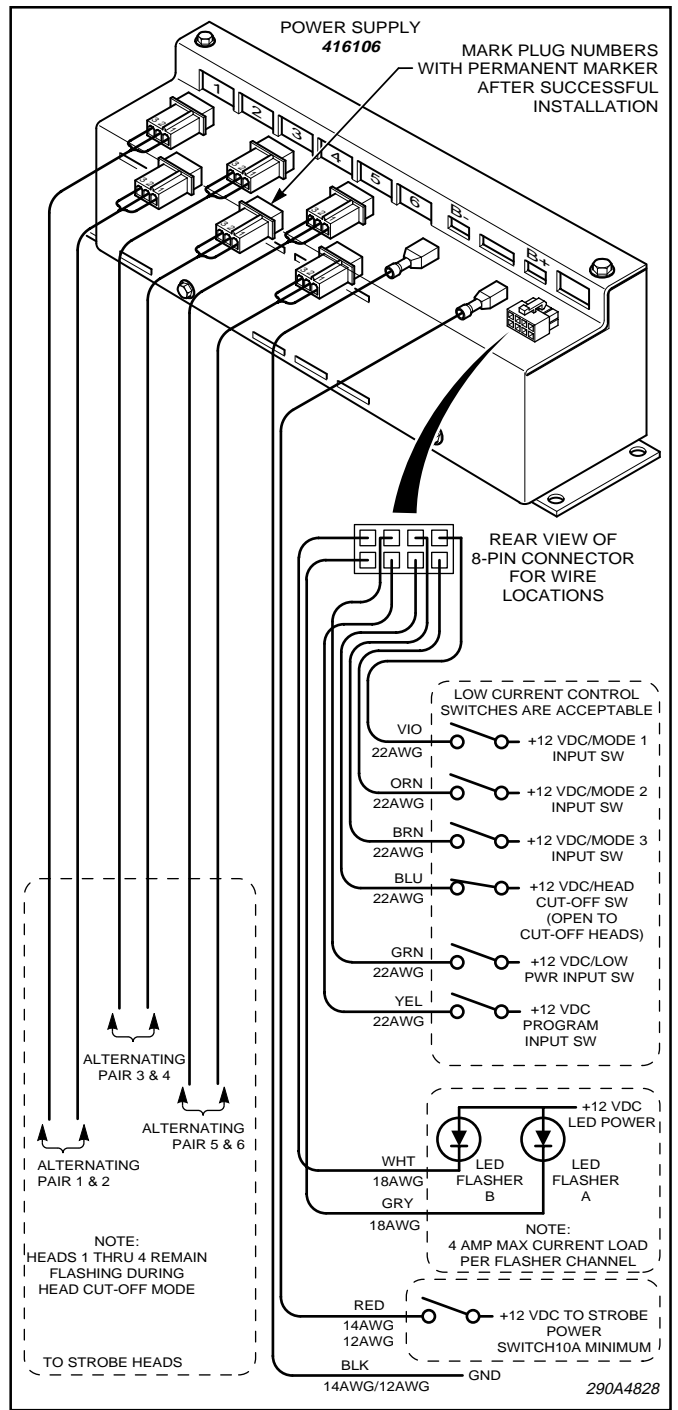

Figure 1.
See figure 1 while completing the electrical connections.
7. See figure 1 and proceed as follows: